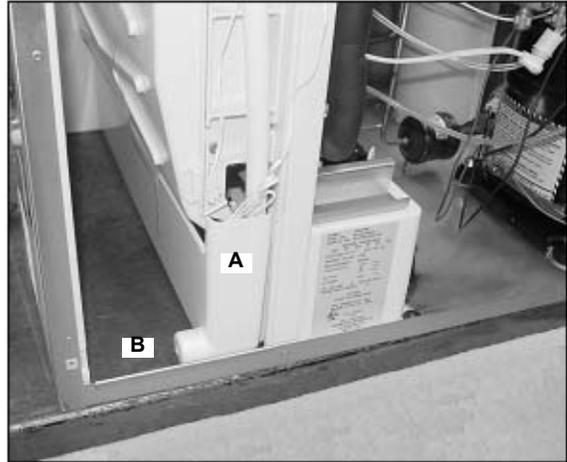

Figure 8.
5. Drain the evaporator water pan (A) by removing the drain cap (B) (Figure 8), behind the bottom metal evaporator support.